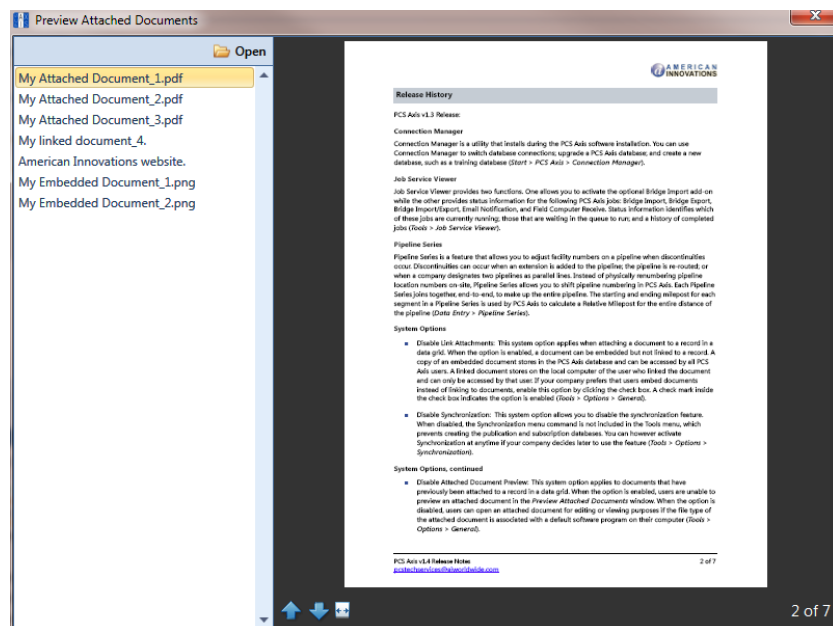

Figure 4-30. Preview Attached Documents
- 6 Select a file in the list on the left side of the window to view the file in the *Preview Attached Documents* window (Figure 4-30).